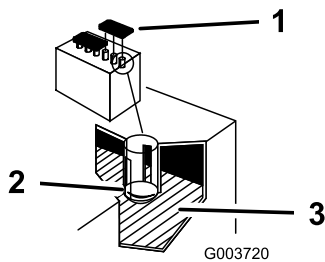

Figure 58
2. Open covers to see into the cells. The electrolyte must be up to the lower part of the tube (Figure 58).
Important: Do not allow the electrolyte to fall below the Lower line (Figure 58).
2. Remove the filler caps from the battery (Figure 58).
3. Slowly pour distilled water into each battery cell until the level is up to the lower part of the tube (Figure 58).